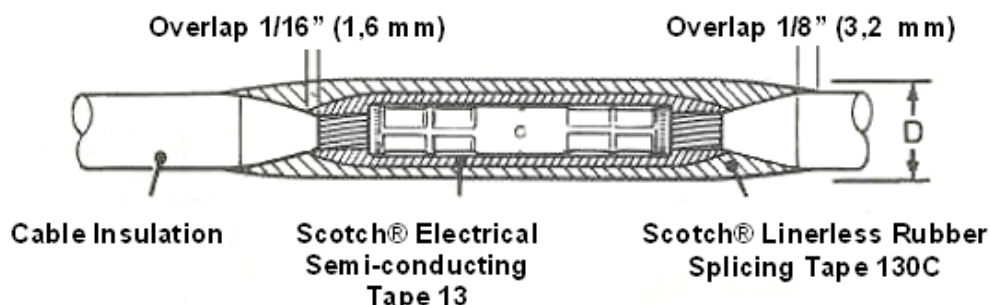

Figure 2
- Fill connector indents with Scotch® Electrical Semi-conducting Tape 13. Smoothly apply 2 half-lapped layers, highly stretched, over exposed conductor/connector area, overlapping 1/16" (1,6 mm) onto insulation pencils. (Figure 2)
- Apply Scotch® Linerless Rubber Splicing Tape 130C over connector/pencil area: Smoothly apply in highly stretched half-lapped layers to a thickness of 1/8" (3,2 mm) or to Dimension "D", whichever is less, over the connector and Scotch® Tape 13. Overlap tape onto cable insulations for 1/8" (3,2 mm) beyond pencils. (Table 3 and Figure 2)